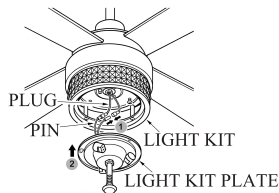

FIG.16
5. Plug in the light wires from light kit and light wires from fan body. (see Fig.16)